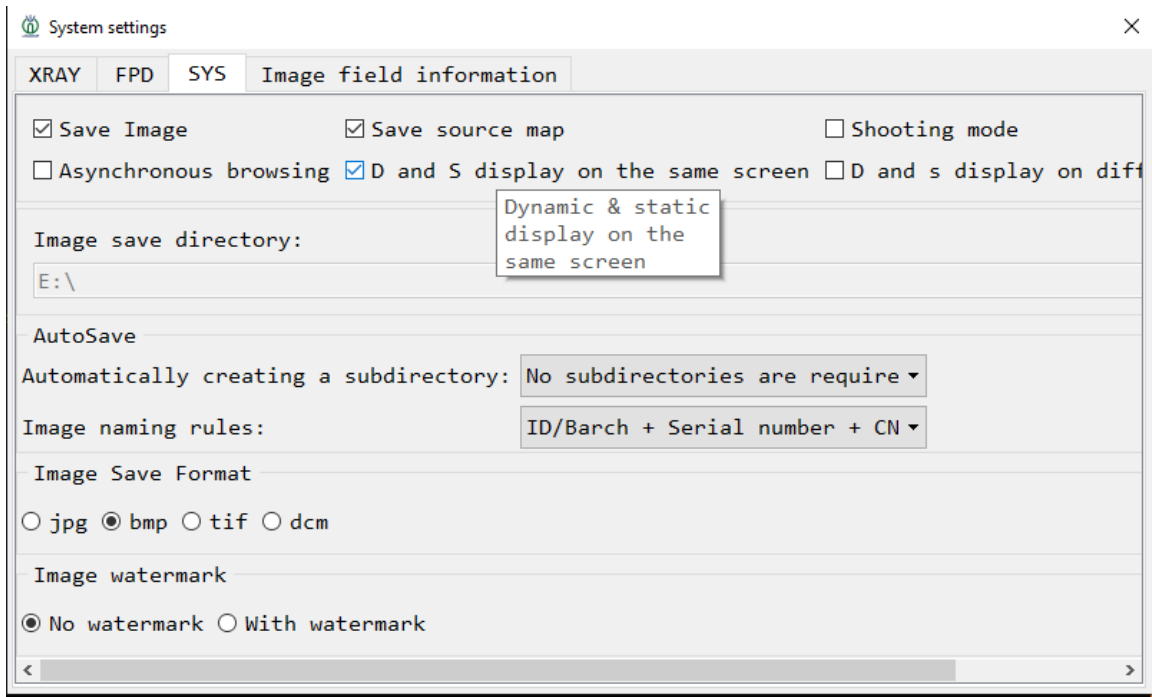

Fig. V-85 System Settings
In the system settings, the user can modify and save image, save source image, enable review mode and photographing mode, dynamic/static switching, image saving path, image naming mode, image saving format and other necessary information settings in automatic testing process (CNC). Enter the system setting interface via "**Settings (S)**" → "**Configuration...**" → "**System**" in the menu bar (Fig. V-85).